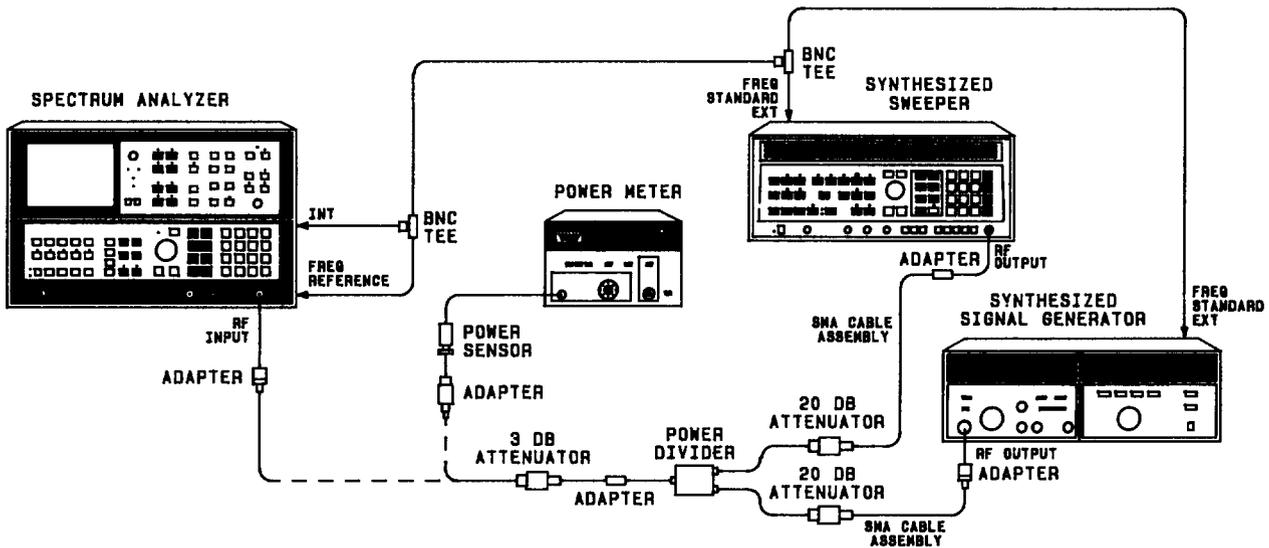

FIGURE 29. INTERMODULATION DISTORTION TEST SETUP
27. Connect equipment as shown in Figure 29 with “output” of power divider connected to power sensor. The **FREQ REFERENCE** switch on the rear panel of the analyzer should be set to INT and the **FREQ REFERENCE** switch on both synthesized source rear panels should be set to EXT.
31. Connect output of power divider to analyzer **RF INPUT** as shown in Figure 29.
- 42. Connect the output of the power divider to the power sensor as shown in Figure 29.
- 44. Connect the output of the power divider to the analyzer input as shown in Figure 29.